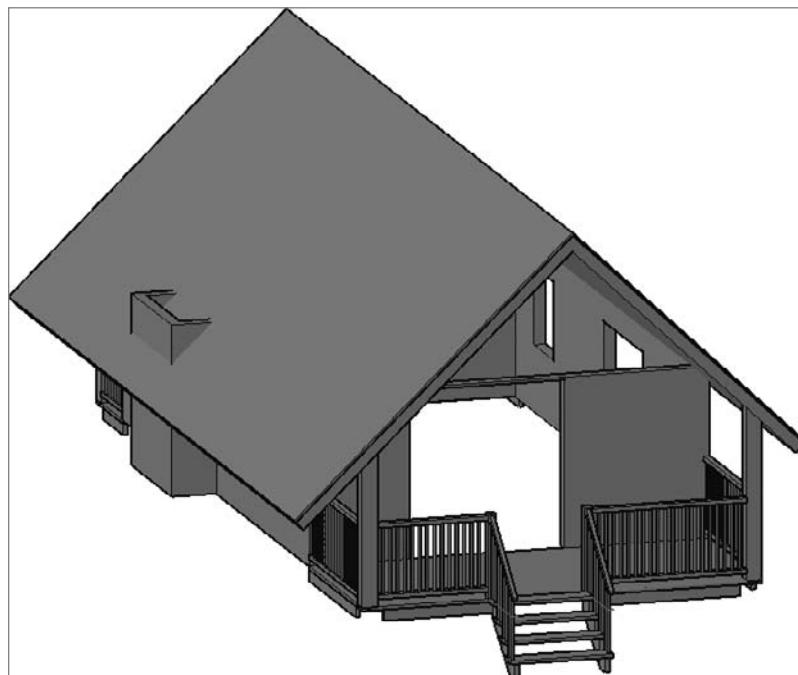

FIGURE 16.78 The eastern side of the cabin with extruded roof polylines correctly aligned
12. Use the Extrude tool to extrude the two polylines that you just drew 43' (13110 mm). Move the extruded roof 1'6" (457 mm) along the positive x-axis. When finished, your cabin should resemble the one shown in Figure 16.78.